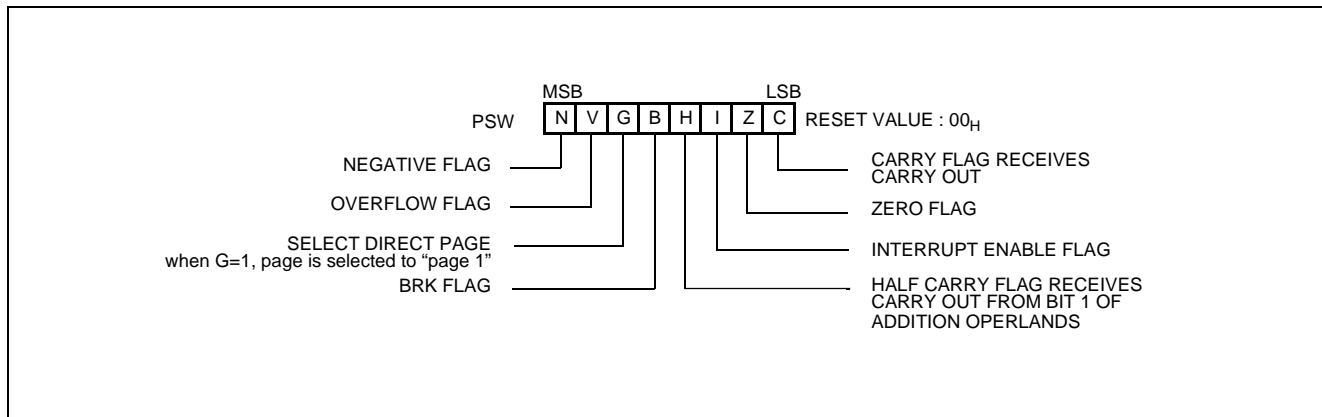

Figure 8-3 PSW (Program Status Word) Register
**Program Status Word:** The Program Status Word (PSW) contains several bits that reflect the current state of the CPU. The PSW is described in Figure 8-3. It contains the Negative flag, the Overflow flag, the Break flag the Half Carry (for BCD operation), the Interrupt enable flag, the Zero flag, and the Carry flag.